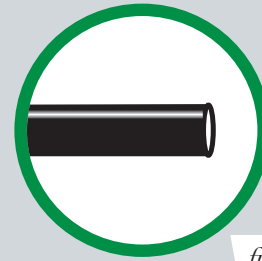

fig. E.1
When cutting air lines, use a sharp knife or a hose cutter and make clean, square cuts (Fig. E.1). Do not use scissors or wire cutters because these tools will deform the air line, causing it to leak around fittings. Do not cut the lines at an angle.
1. If there is a problem with the push-to-connect fitting, remove the air line as described above. Trim 1" off the end of the air line. Be sure the cut is clean and square (see Fig. E.1).